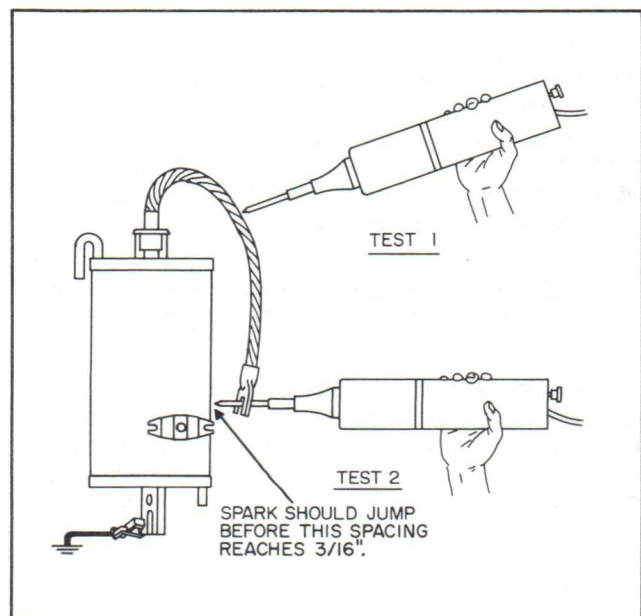

Figure 12. Preliminary High Potential Vacuum Test
(6) If the test shows that the ignitor is wet, the tube may operate satisfactorily for a while; however complete failure or sporadic operation is inevitable.
(7) Wet ignitors indicate that the tube was probably operated at temperatures in excess of ratings, or that sidewall arcing had occurred. An investigation should be made to correct this condition.
c. VACUUM TEST. (See figure 12)
(1) PRELIMINARY TEST PROCEDURE.